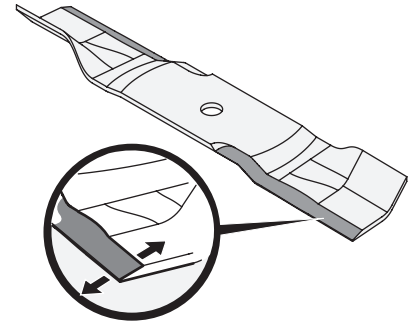

Figure 4-25
- To properly sharpen the cutting blades, remove equal amounts of metal from both ends of the blades along the cutting edges, parallel to the trailing edge, at a 25°-30° angle. Always grind each cutting blade edge equally to maintain proper blade balance. See Figure 4-25.